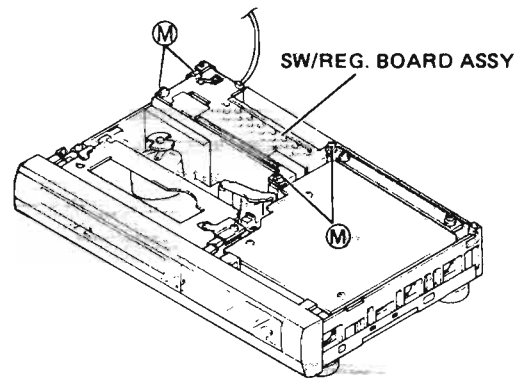

Fig. 1-1-11
2. Refer to Fig. 1-1-11 and take out 4 screws (M) from the switching regulator board assembly.